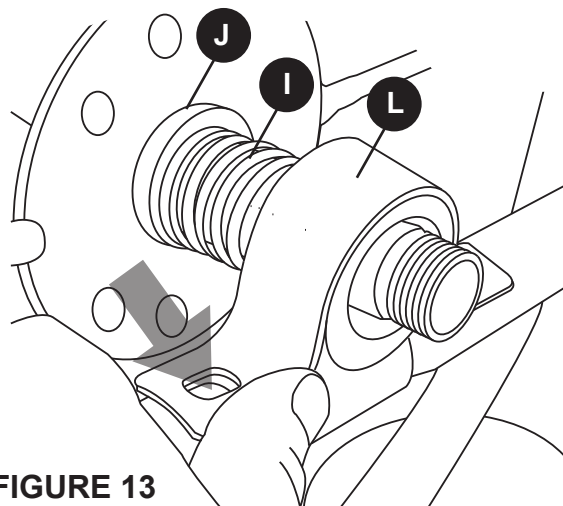

FIGURE 13
13. Slide the Spacer washer (**J**), spring (**I**) then the other u-bushing (**L**) over the spool end at the front of the cart. **See Figure 13**